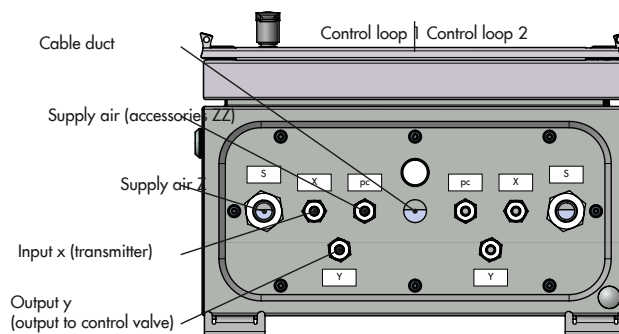
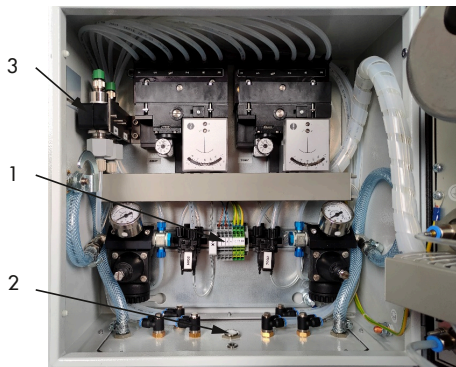

Fig. 7: Labeled connections of Type 7311
Fig. 8: *Electrical connection · Accessories*
2. Connect all required supply lines (see connections in Fig. 7).
A supply line for the external air supply must be provided on site and connected as described in Fig. 7.
The power supply line is guided through the cable duct (see Fig. 7) and connected to the internal terminal block (see Fig. 8).